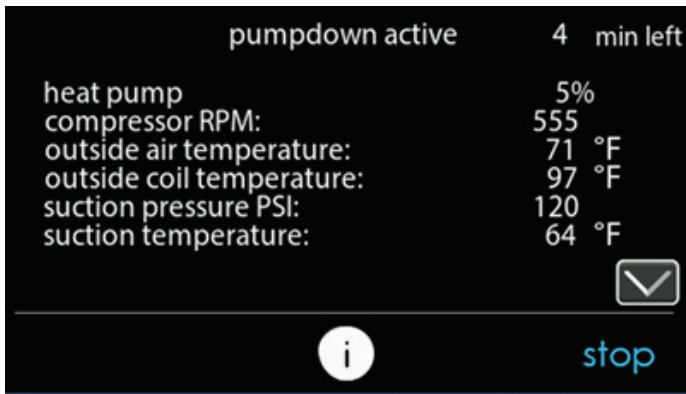

Fig. 23 – Pump Down Status Screen
4. Select Start on UI to begin the pumpdown process. Unit will begin running in selected mode after a brief delay and a status screen will be displayed. See Fig. 23.